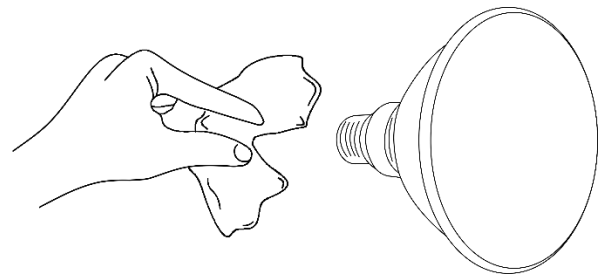

Fig. 04
- 03) Remove the lamp from the box and hold it **by the base**. Read lamp instructions. **Do not touch the lamp bulb glass**. Oil on hands shortens the lamp's lifespan. If you touch the bulb glass, wipe it off with a clean, lint free towel and rubbing alcohol (fig. 04).